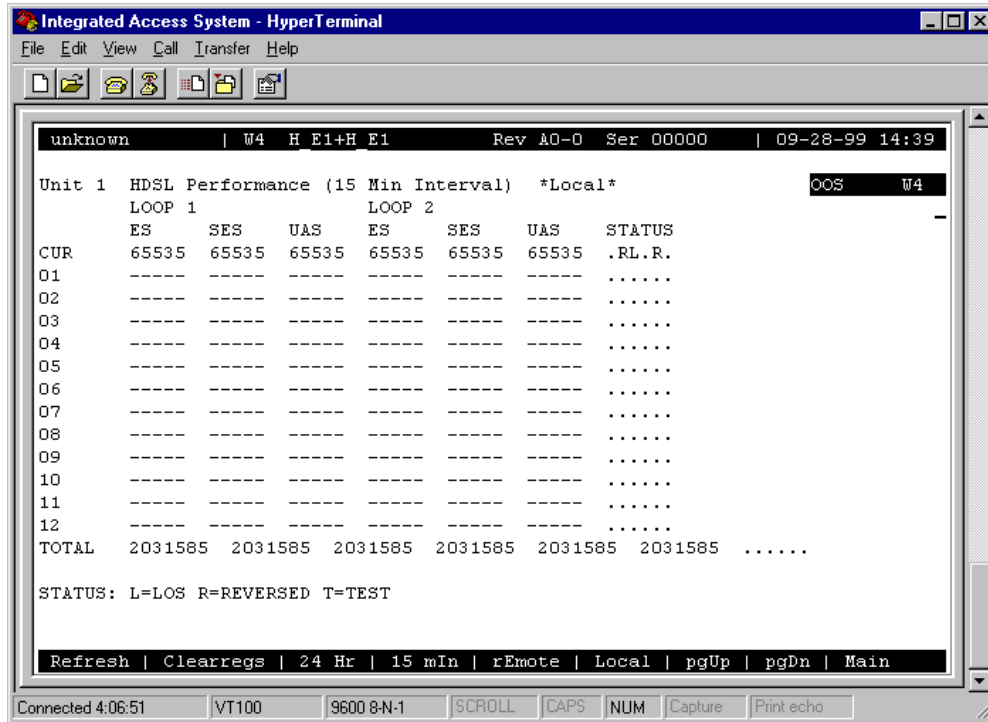

Figure 7-22. Typical Adtran E1/HDSL Performance Data Screen (local 15-minute interval)
Figure 7-22 shows the Adtran E1/HDSL Performance Data Screen for the WAN-U card. The screen will display statistics for either Unit 1 (HDSL module 1) or Unit 2 (HDSL module 2), depending on which one you choose in the HDSL Screen.
Figure 7-22 shows the number of Errored Seconds (ES), Severely Errored Seconds (SES), and Unavailable Seconds (UAS) in loops 1 and 2 (local or remote), in either 15-minute or 24-hour increments. This allows for four different possible displays:
In 15-minute intervals, 12 historical time periods are shown on the left side of the screen (Figure 7-22). By pressing “d” (**pgDn**) in that screen, you can view historical time periods 13 through 24. Press “d” again to display historical time periods 25 through 32. These periods record the activity for the past thirty-two 15-minute periods, thus providing eight hours of historical data.